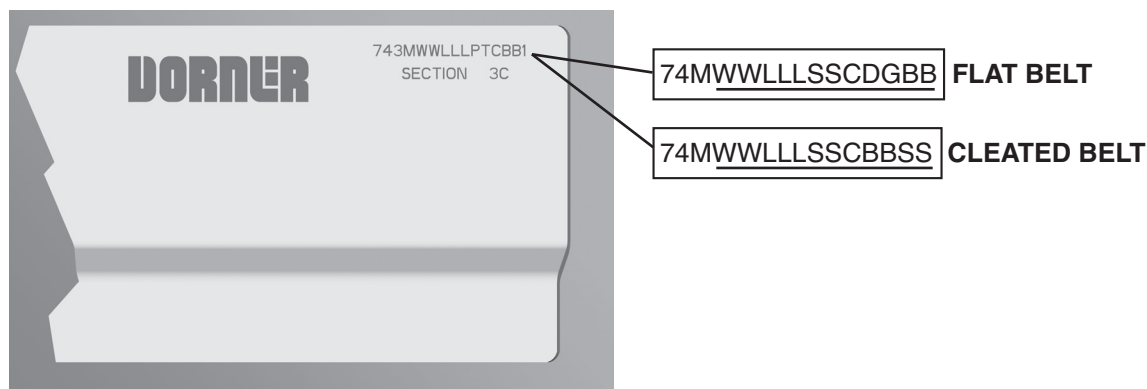

Figure 82
Refer to the model number on the conveyor frame (**Figure 82**). From the model number, determine conveyor width (WW), length (LLL), drive stand location (S), idler stand location (S), cleaning options (C), drive/pulley type (D), profile (G) and belt material (BB).
Refer to the model number on the conveyor frame (**Figure 82**). From the model number, determine conveyor width (WW), length (LLL), drive stand location (S), idler stand location (S), cleaning options (C), cleated belt material (BB) and cleat spacing (SS).